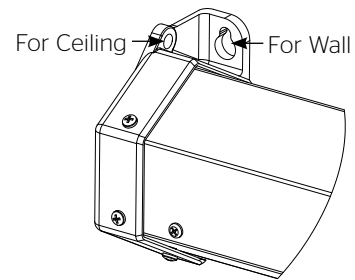

Figure 1
2. Insert fasteners through proper openings provided in back side of end caps. See figure 1.